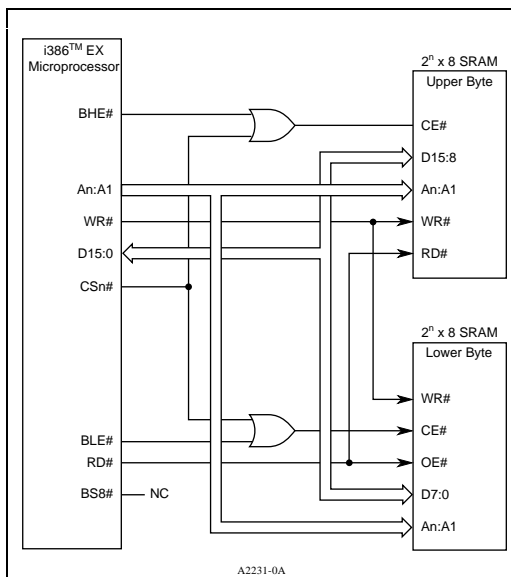

Figure 6. Intel386™ EX Microprocessor Interface to 16-Bit Wide SRAM
- The external bus for an Intel386 SX microprocessor contains a multiplexed W/R# signal to designate the current bus cycles as a write operation (logic 1) or a read operation (logic 0). Most static RAMs (SRAMs) and EPROMs available in the market require separate read and write control signals for interfacing. This means that in an Intel386 SX microprocessor-based system, glue logic is required to demultiplex the W/R# signal before routing it to memory. To facilitate a simplified interface to SRAMs and EPROMs, the Intel386 EX microprocessor offers separate RD# and WR# signals. Figure 6 shows an example of interfacing the Intel386 EX microprocessor to a 16-bit wide SRAM. The multiplexed W/R# signal is retained for compatibility with existing companion chips.